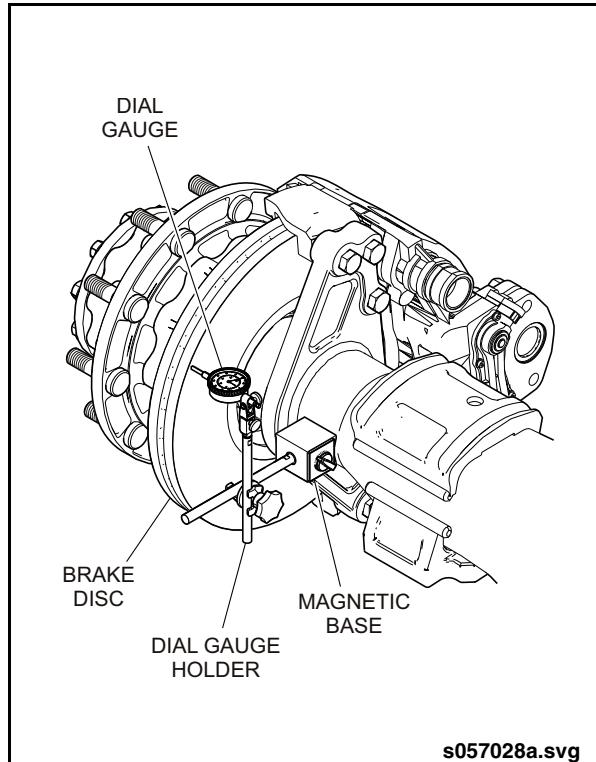

Fig. 2-9: Wheel Bearing Inspection
3. Attach the base of a magnetic dial gauge to any rigid part of the vehicle structure or axle housing. See "Fig. 2-9: Wheel Bearing Inspection" on page 14.